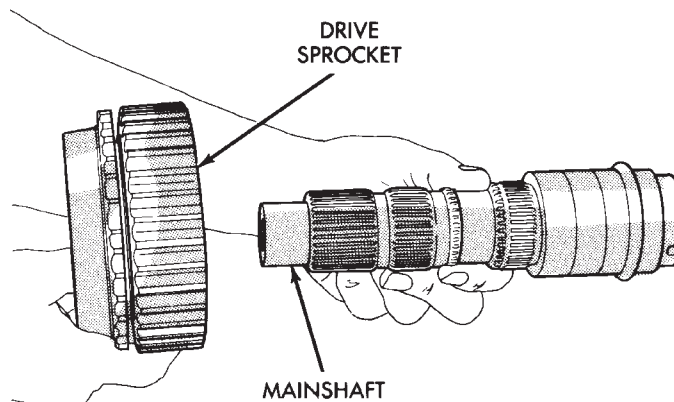

Fig. 36 Drive Sprocket Removal
(5) Remove drive sprocket (Fig. 36).